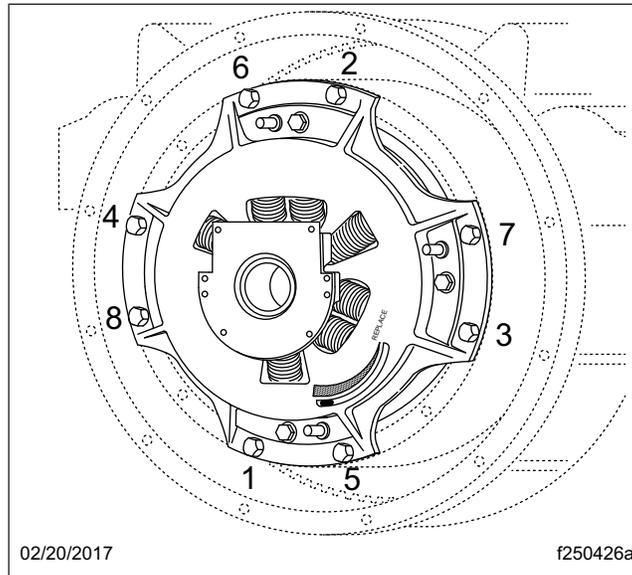

Fig. 12, Tightening Sequence
7. Progressively tighten the mounting bolts in a crisscross pattern starting with the lower left bolt. Torque to 45 lbf·ft (61 N·m). See Fig. 12.